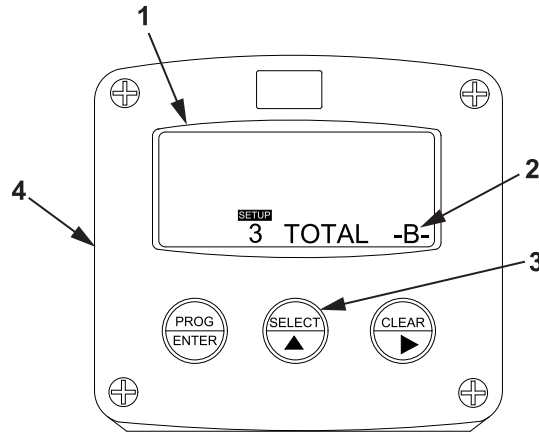

Figure 18. TOTAL B Display.
7. Verify that TOTAL B (Figure 18, Item 2) appears on the display screen (Figure 18, Item 1).
8. Verify default settings for function group TOTAL B (Figure 18, Item 3).
- a. Press the SELECT key (Figure 18, Item 2) on the tank volume meter monitor (Figure 18, Item 4).